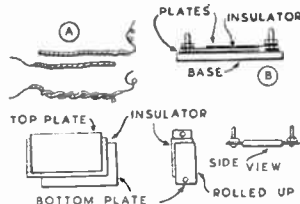

Fig. 4—Making small fixed condensers
A condenser of small capacity is readily made by taking two insulated wires, such as shown at (A) in Fig. 4, and twisting them together. This method is still found in certain modern, ready-made receivers because it enables the capacity to be adjusted by varying the
(C) in Fig. 4 shows the method actually employed in making most small fixed condensers. Two pieces of tinfoil are taken and a piece of insulating paper placed between them. The whole is then folded over and over until a small, flat shape is obtained. If this has been carried out properly the two pieces of tinfoil will not be in contact. The condenser is then fitted with leads or terminals and inserted in a case, or dipped in pitch or similar material.